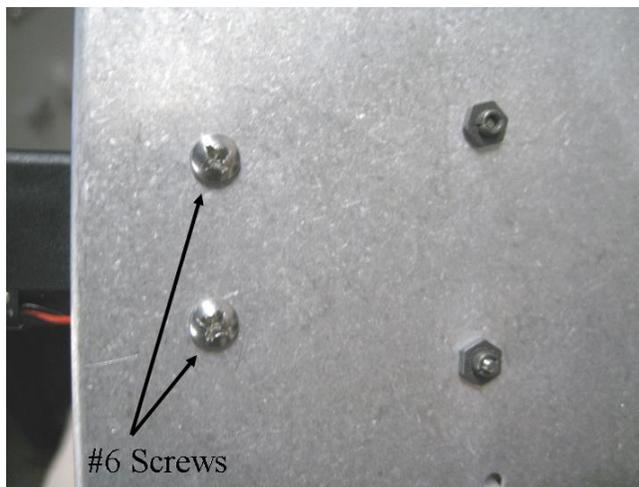

FIGURE J-8. Self-tapping screws attaching pump to metal box
8. Turn assembly over and remove the two self-tapping #6 screws that attach the pump to the metal box, as shown in FIGURE J-8. If these screws become lost or damaged, replace them with pn #13535.
2. Reattach the pump to metal box with two self-tapping screws on the back of the pump module electronics plate (FIGURE J-8).